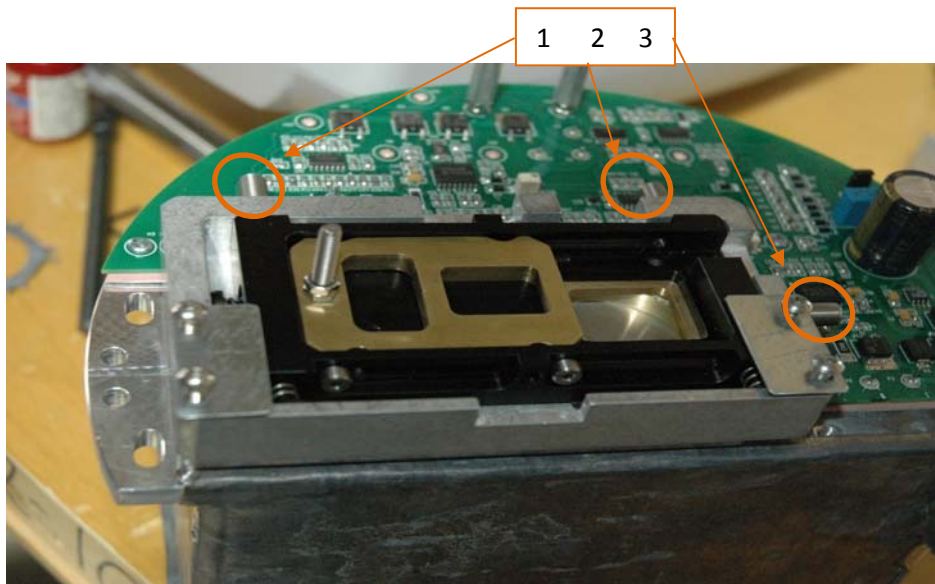

Fig 2-2-3
- The locking screw indicated by a circle in Figure 2.2-3 should always be snug and not too tight to allow movement of the Intermediate Collimator.
- All set screws indicated by rectangles in Figure 2.2-3 should always be snug and resting against the Intermediate Collimator sidewalls.